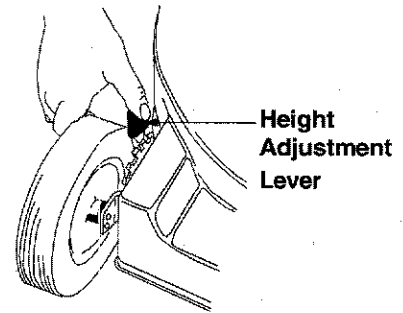

Figure 25
- Simply depress the lever towards the wheel and move the lever assembly to desired position. See Figure 25.